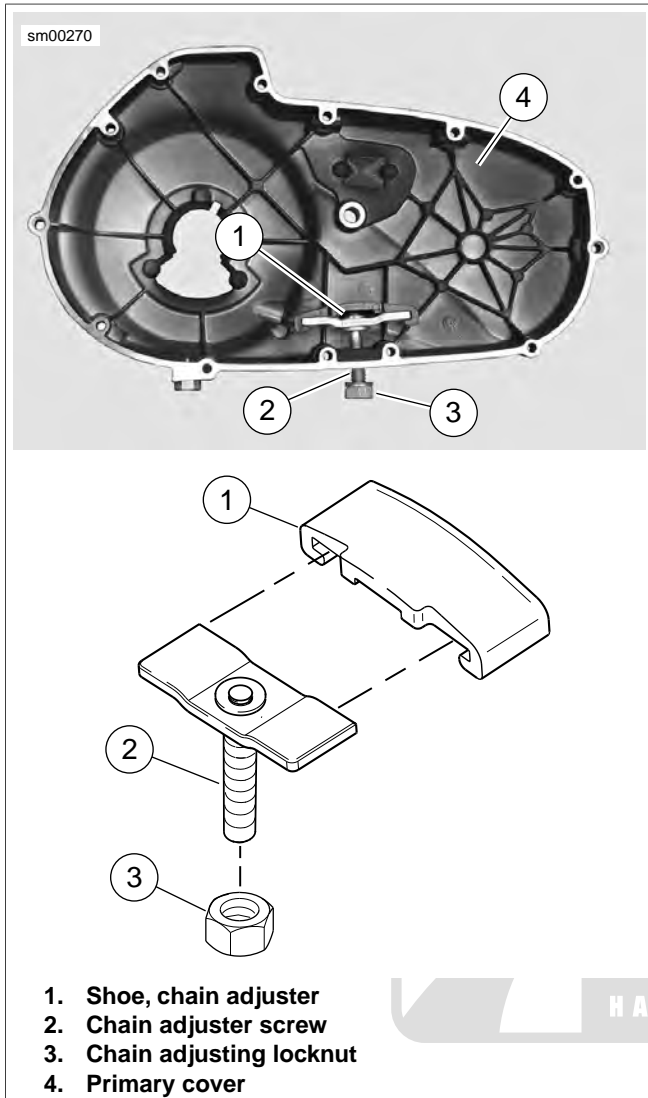

Figure 5-4. Primary Chain Adjuster
- See Figure 5-4. Remove locknut (3) from adjuster screw (2). Turn adjuster screw out of threaded boss in primary cover (4).
- Inspect primary chain adjuster shoe (1). If badly worn or damaged, it must be replaced.
- Position adjuster inside primary cover (4) with closed side of shoe against cover. Thread adjuster screw (2) all the way into tapped boss at bottom of primary cover.
- At outside of cover, thread locknut (3) onto adjuster screw with nylon sealing surface toward cover. A 1/4-inch allen